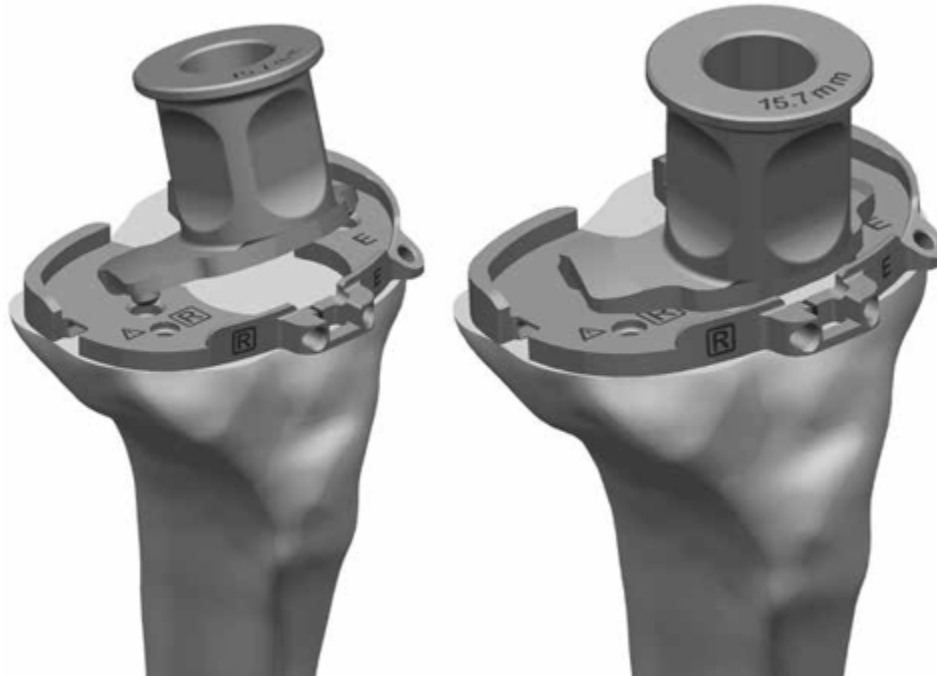

Figure 16
1. By hand, place and hold the cemented tibial drill guide on the tibia cemented tibial sizing plate, by first engaging the posterior tabs in the undercuts in the cemented tibial sizing plate and then making sure that the distal anterior portion of the cemented tibial drill guide is flush against the cemented tibial sizing plate. **Figure 16.**